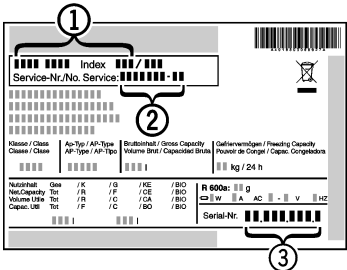

Fig. 9
► Read the appliance designation *Fig. 9 (1)*, service no. *Fig. 9 (2)* and serial no. *Fig. 9 (3)* from the rating plate. The rating plate is located inside the appliance on the left-hand side.
► Notify a qualified service provider, specifying the fault, appliance designation *Fig. 9 (1)*, service no. *Fig. 9 (2)* and serial *Fig. 9 (3)* no.